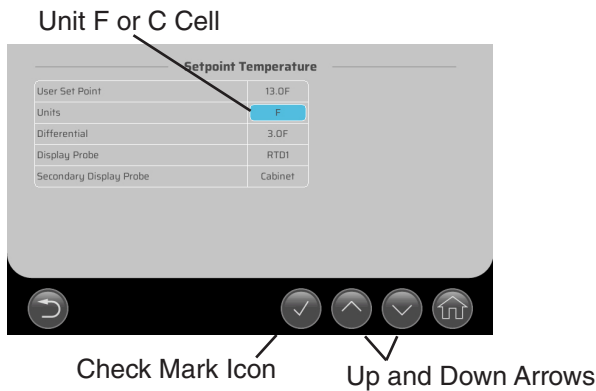

Fig. 10
- c) Press the Units F or C cell in the Units row. See Fig. 10.